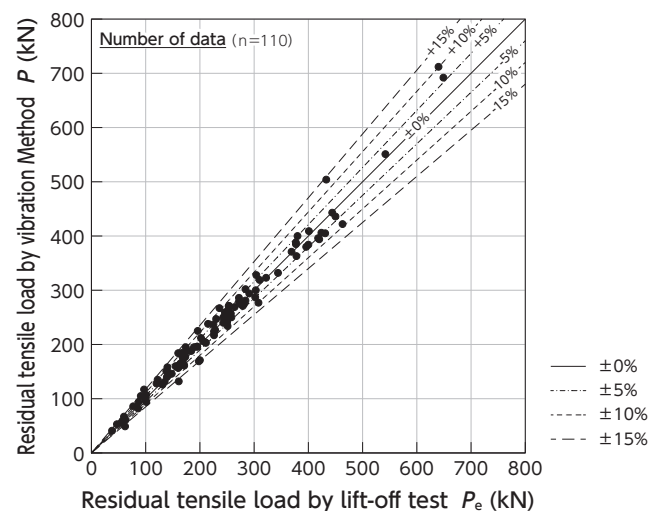

Figure 5 Comparison of tensile load obtained by lift-off test and VIBRES-system
The relationship between residual tensile loads estimated from the vibration method (P) and those measured by the lift-off test (P_e) is approximately 1:1, and the error of P with respect to P_e is within $\pm 15\%$ at most (**Figure 5**).